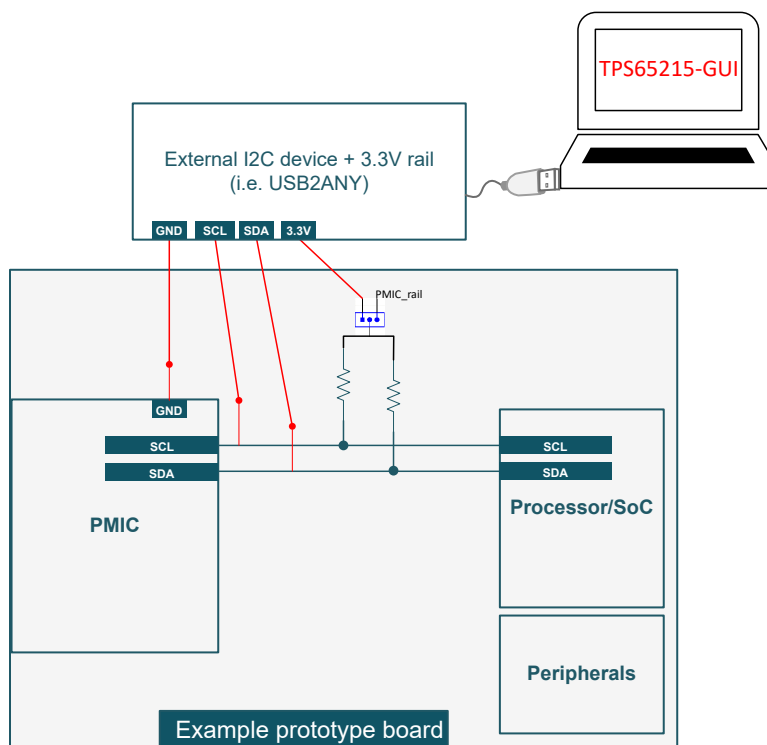

Figure 3-2. Prototype Example
- b. **Prototype board:** The user-programmable TPS6521505 NVM comes with all the power resources inactive by default and the EN/PB/SENSE pin configured as push-button with without FSD (PU_ON_FSD = 0x0). If this pin is pulled up to VSYS, PMIC stays OFF (Initialize state) when a valid supply is connected to VSYS. This configuration allows the reprogramming of the NVM before the power-up sequence is executed. Figure 3-2 shows what customers need to include in the prototype board to re-program the PMIC NVM. The components required include three test points on GND, SCL, SDA, and a 1x3 single row header connector that selects the pull-up supply between the external 3.3V and the PMIC rail that supplies the I2C pins in the normal application. The USB2ANY (available at ti.com) can be used to communicate with the PMIC and re-program the NVM settings.